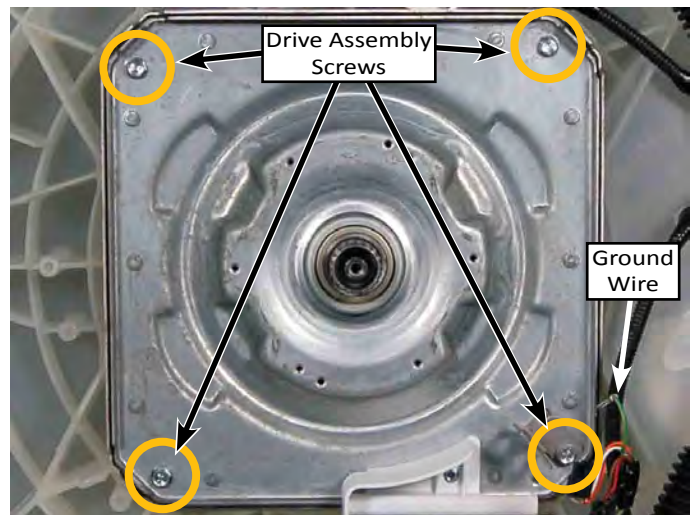

Figure 2
REASSEMBLY NOTE: The four (4) drive assembly screws are threaded into the bottom of the plastic tub (see Figure 2 above). Using a power driver to tighten the screws may strip the holes. Tighten only by hand until very snug.